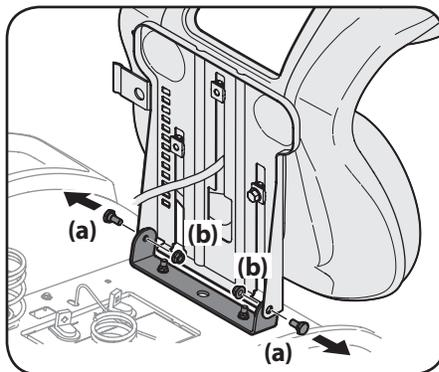

Figure 2-2
2. Remove the two shoulder screws and flange lock nuts in the seat pan as shown in Figure 2-2.